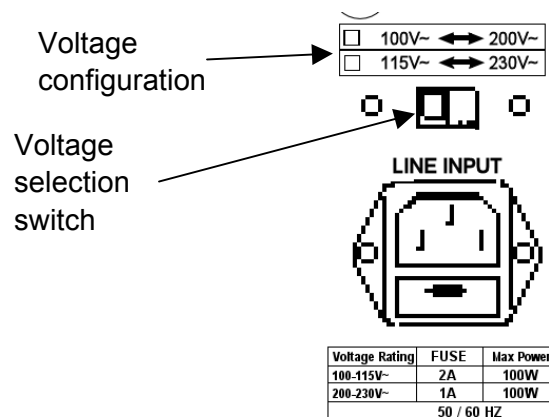

Figure 2-1 Setting Switch
2. Refer to the drawing of the SLH-series load rear in Figure 2-1; set the switches to the proper voltage as described in the following steps:
- d. Replace the fuse with the appropriate type as indicated in Figure 2-1. These fuses are slow-blow fuses.